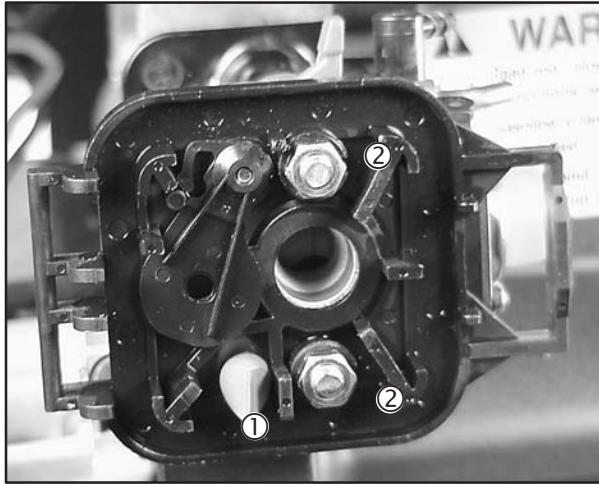

Fig. 35
4. Insert breather check valve (1) through air cleaner base. Make sure slot in breather valve is in a vertical position as shown, Fig. 35.
5. Install nuts (2).